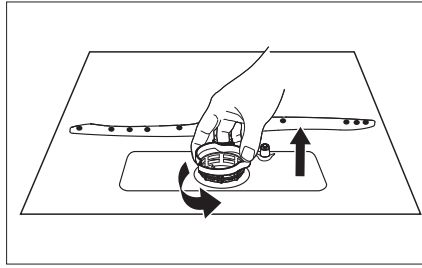

Fig. 19
- ▶ Turn the coarse filter (a) anti-clockwise and pull it out of the main filter (see **Fig. 19**).